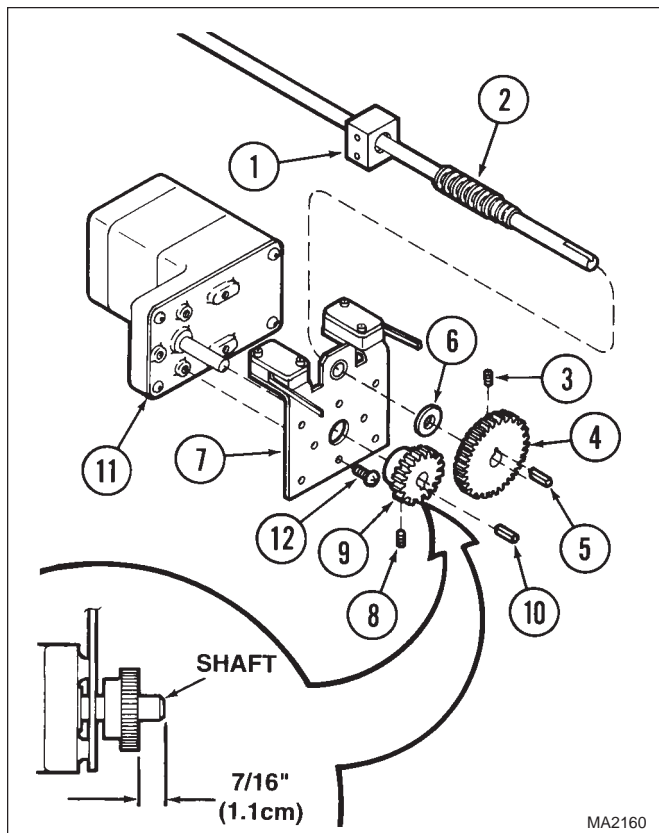

Figure 4-34. Lateral Tilt Drive Assembly Assembly
- (1) Install bull gear bracket (7, Figure 4-34) on lateral tilt motor (11) and secure with five screws (12).
- (2) Install key (10) and pinion gear (9) on shaft of lateral tilt motor (11).